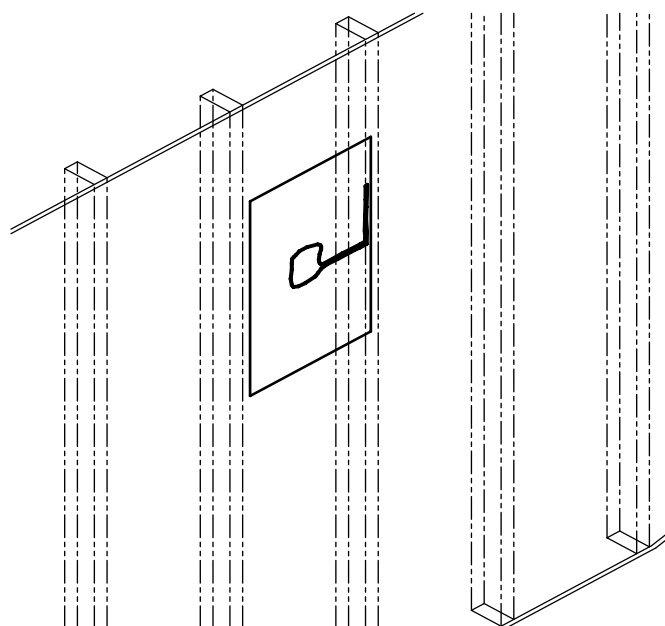

fig. 7
6. Align the Installation Aid/Mounting Bracket relative to the stud/joist and reference line. Mark the outline of the Installation Aid/Wall Mounting Bracket, tracing the dimensions on the wall/ceiling. (please see fig. 7)